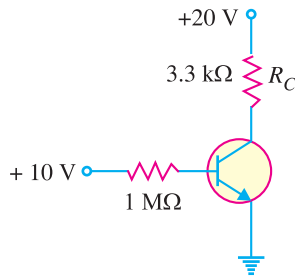

Fig. 8.70
8. Draw the d.c. load line for Fig. 8.70. [The end points of load line are 6.06 mA and 20 V]
9. If the collector resistance R_C in Fig. 8.70 is reduced to $1\ \text{k}\Omega$, what happens to the d.c. load line? [The end points of d.c. load line are now 20 mA and 20 V]